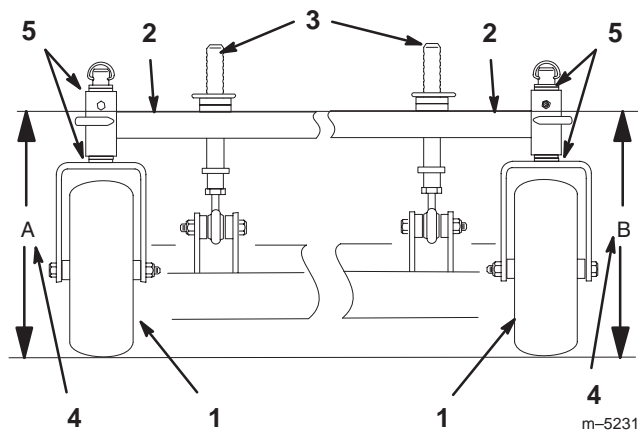

Figure 53
3. Measure carrier frame height at location **A** (Fig. 53).
4. Measure carrier frame height at location **B** (Fig. 53).